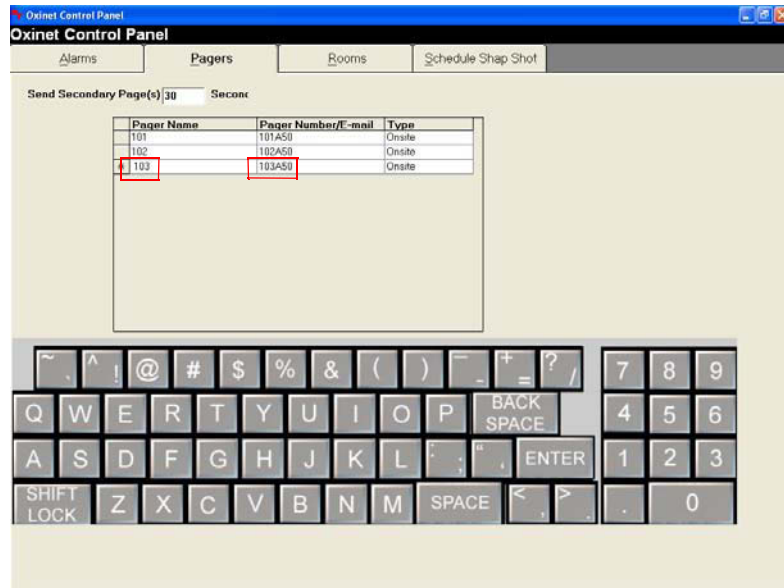

Figure 27: Pagers Menu — Entering Pager Name
- 2 Press (or click) the cell in the *Pager Name* column and type the pager number, for example **103** (Figure 27).
- 3A** Press (or click) the cell in the *Pager Number/E-mail* column and type the pager name and number, for example **103A50** (Figure 27) — the pager number is indicated on the back of the pager (in this example the pager number is 103).